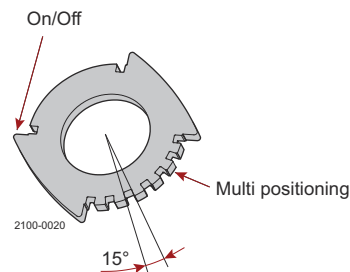

Figure 3. Positioning cap
- Lockable Multiposition Handle. Padlock can be mounted as shown in fig. 3. **Note!** Padlock is not delivered.